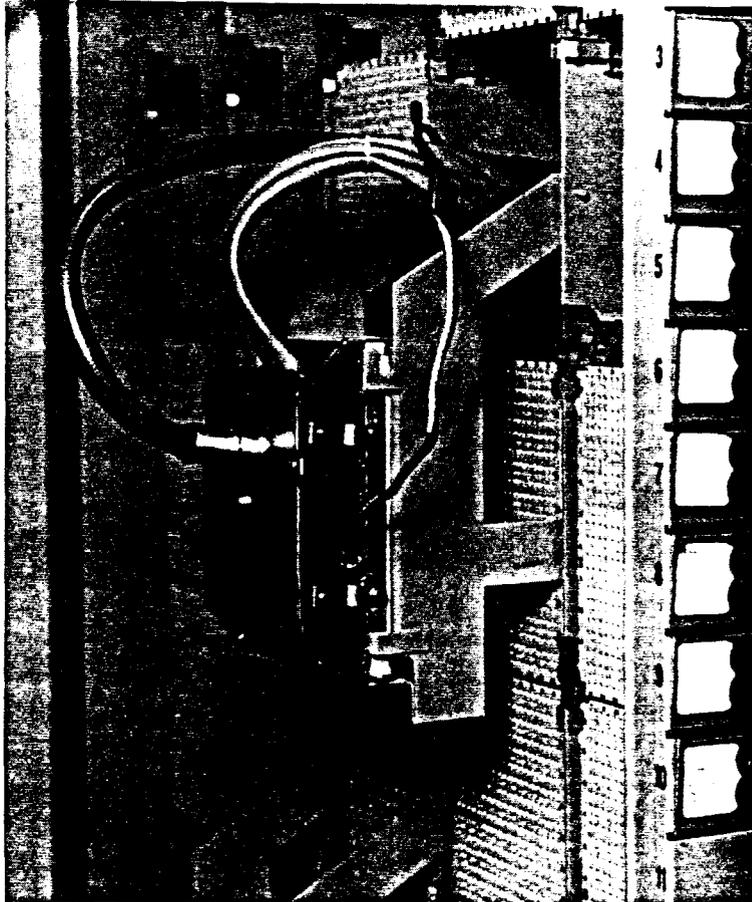

Figure 30. Connecting Casing Facing Outwards
- 8.10 Rotate the connector panel downwards so that the top is resting against the bottom of the service bracket and the casing is facing outwards (Figure 30).